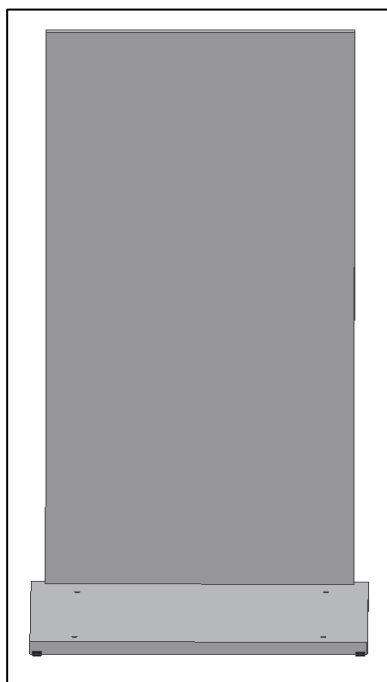

Fig. 3
- Fix the **back panel** to the panel of the bottom and fasten (Fig.3).